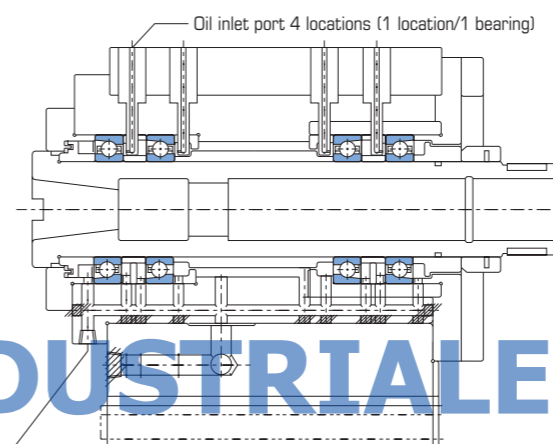

Figure 6.4 Example of Spindle Unit Using Oil Air Lubrication
- Figure 6.4 shows an example of oil air lubrication.